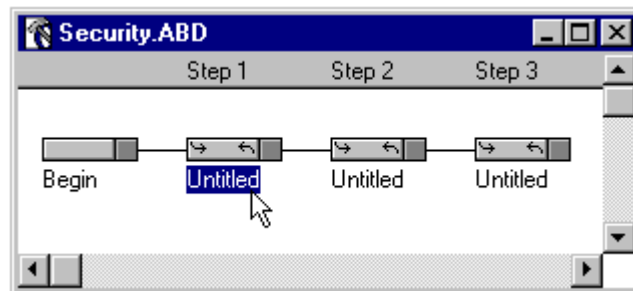

Figure 3-12 Step 1 Field Description Name Box
11. Double-click the word **Untitled** under Step 1 (Figure 3-12). This opens the Input Handler name box so you may edit or change the name.